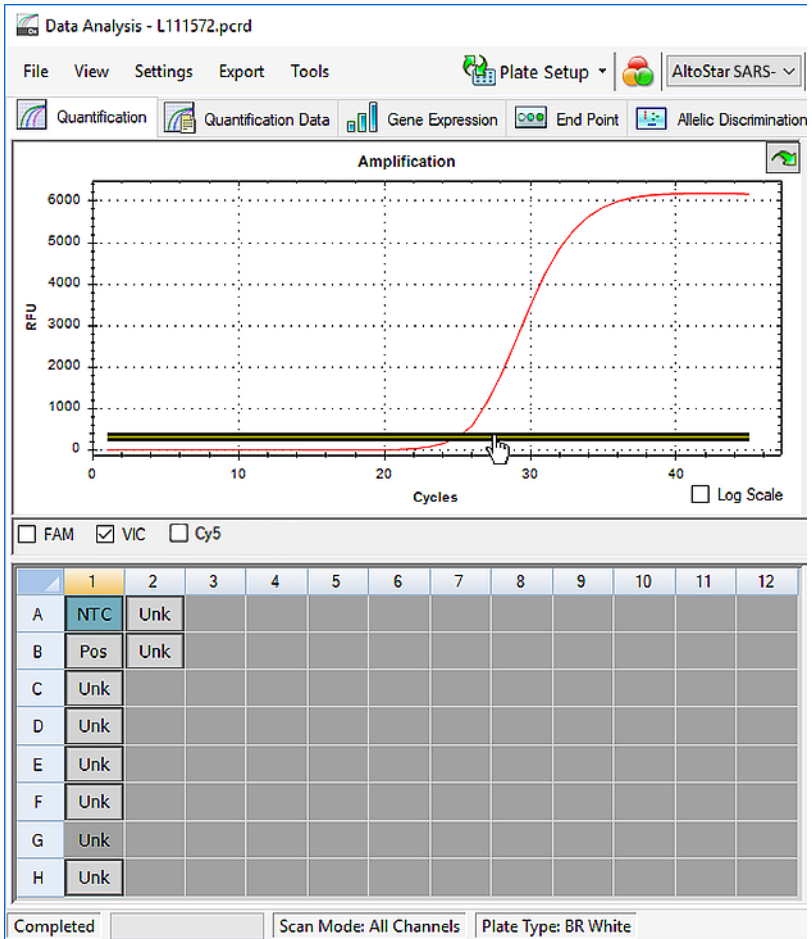

Figure 39: Data Analysis window: Setting the VIC™ threshold
2. At the left side of the **Data Analysis** window tick only the **VIC** checkbox for the detection channel of the Internal Control (see Figure 39).
3. Select only the NTC well in the plate view of the **Data Analysis** window (see Figure 39).
4. Drag the threshold into the exponential area of the NTC signal (see Figure 39).